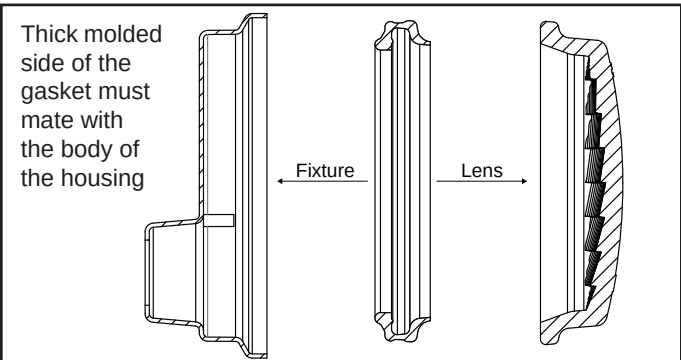

**Figure 10. Cross Section of Jandy Pro Series White LED Light**
2. While holding the fixture upright, place the glass lens with the gasket on top of the fixture. Please note that the lens gasket is not symmetrical. Therefore, it must be installed correctly so that the lens can seal to the fixture housing. Place the gasket on the lens with the orientation shown in Figure 10. On the small light, replace the diverger by tucking the tabs between the lens and gasket.